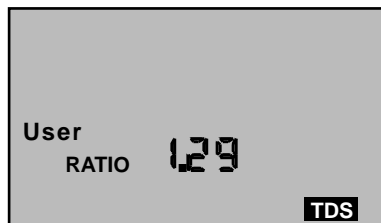

Figure 4
- b. Press **CAL/MCLR** twice (to skip over tempco adjustment), and “RATIO” will appear (see Figure 4).